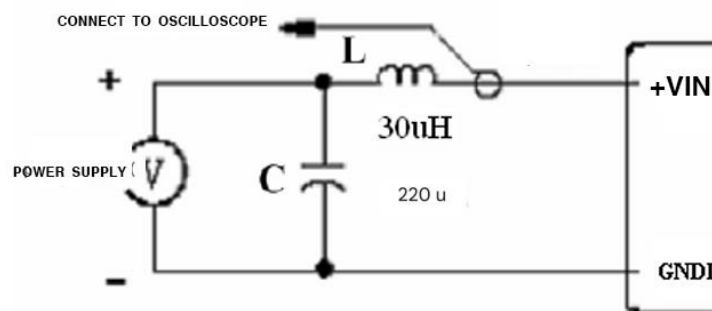

Figure A.3. Ripple current test method
- When testing this item, an LC filter can be connected to the input terminal, as shown in Figure A.3;